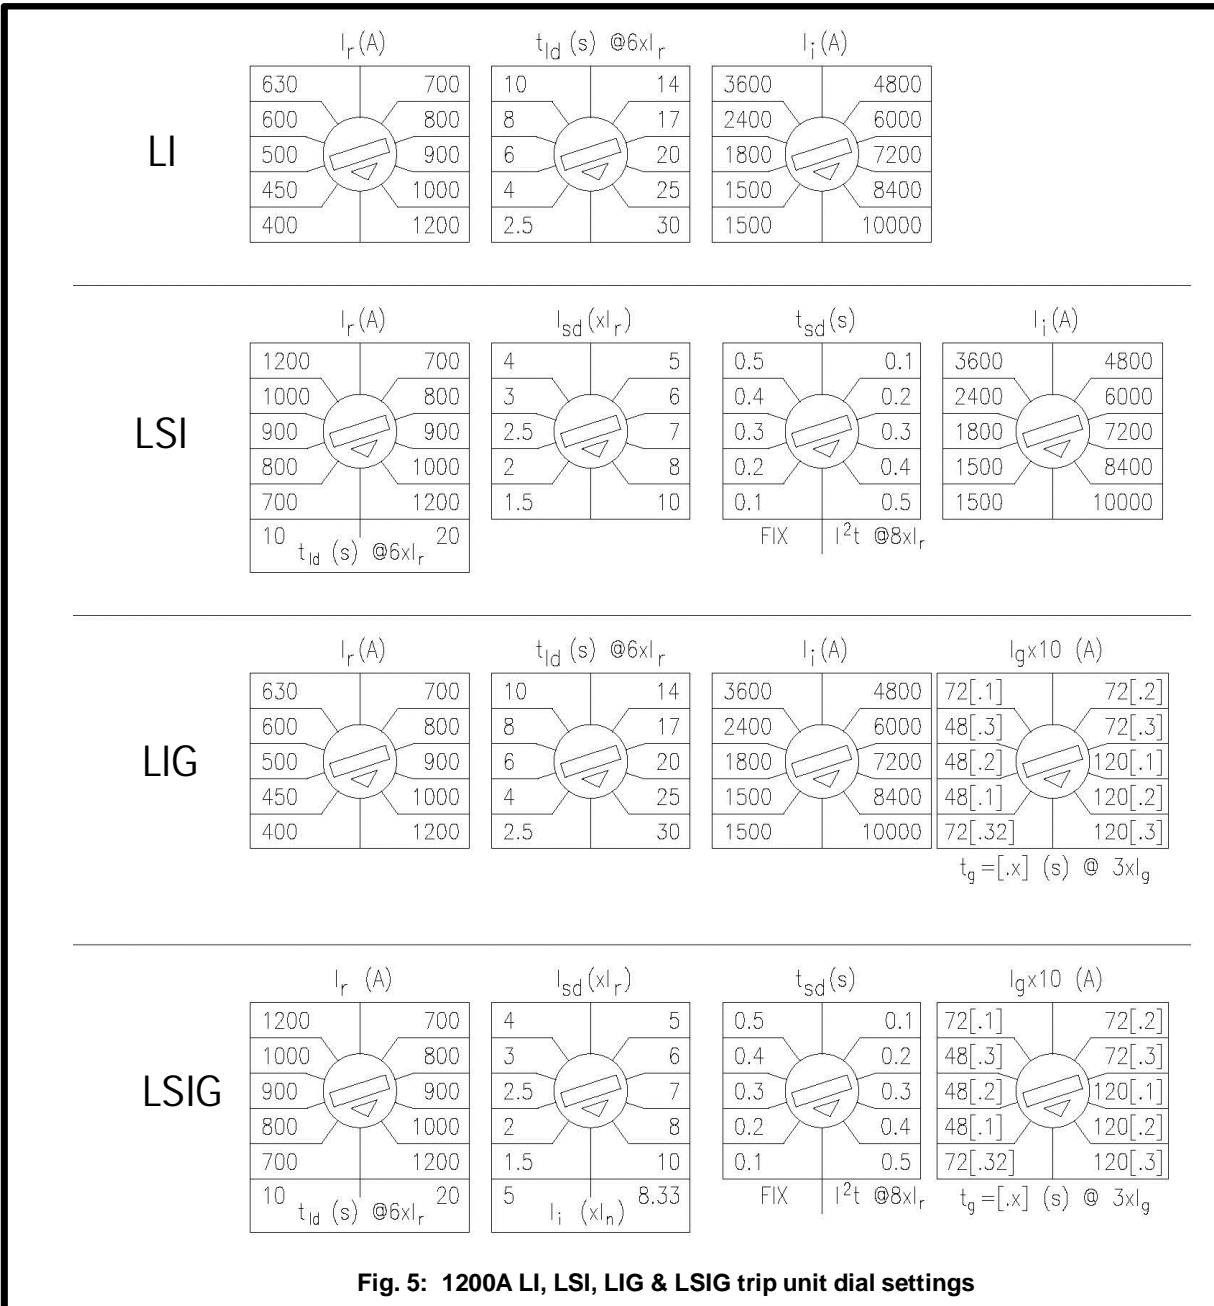

Fig. 5: 1200A LI, LSI, LIG & LSIG trip unit dial settings
All model types have an adjustable Continuous Current dial setting. The first dial is always used to adjust the Continuous Current setting of the circuit breaker and the markings are displayed in Amps. The Long Time Pickup (I_{ld}) setting is set to $I_r \times 1.15$. LI and LIG configurations have ten (10) adjustable settings and the LSI and LSIG configurations have five (5) adjustable settings. See Fig. 5 for an example of the four 1200A configurations.